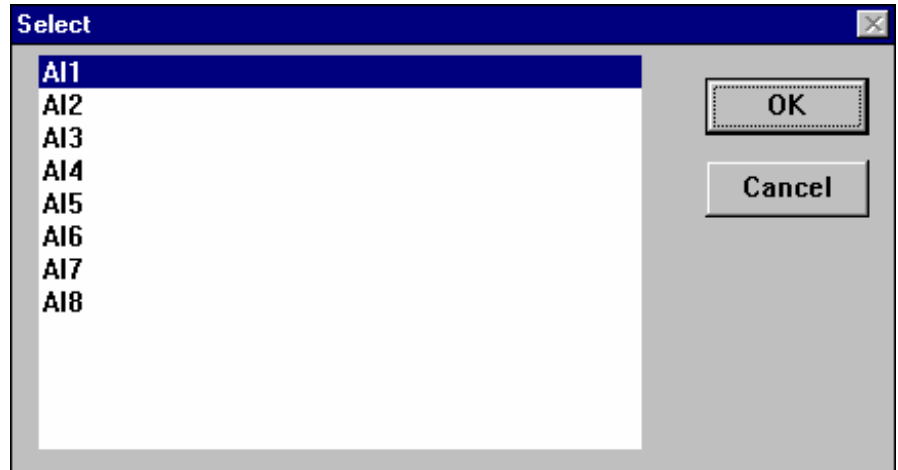

Figure 13-5: Select Point Dialog Box Example
5. Highlight a subcategory and click OK. A Select point dialog box appears (Figure 13-5).